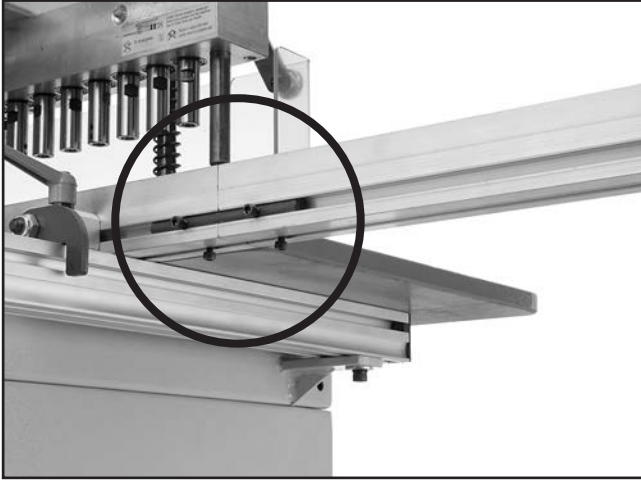

Figure 14. Extension fence installed.
- Slide the extension fence rods into the main longitudinal fence, and tighten the cap screws to hold the extension fence in place (see **Figure 14**).